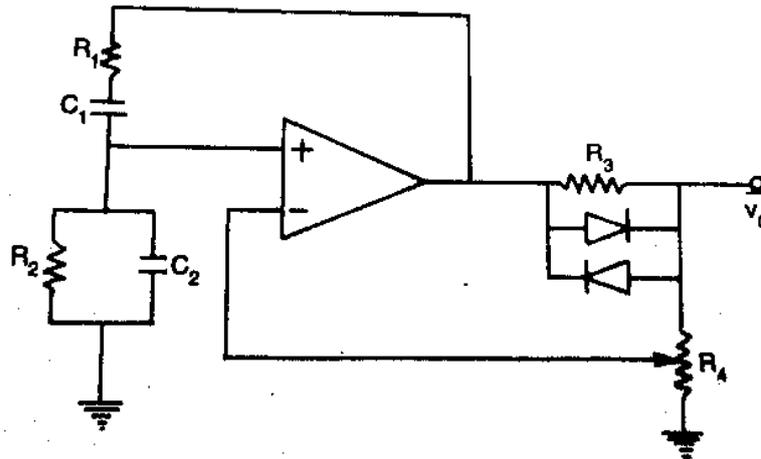

Fig. 3.43 Practical Wien Bridge Oscillator with adaptive negative feedback
- And, for $A_V > 3$, the oscillations will be growing. This problem is eliminated by a practical Wien bridge oscillator with adaptive negative feedback as shown in Fig.3.43.